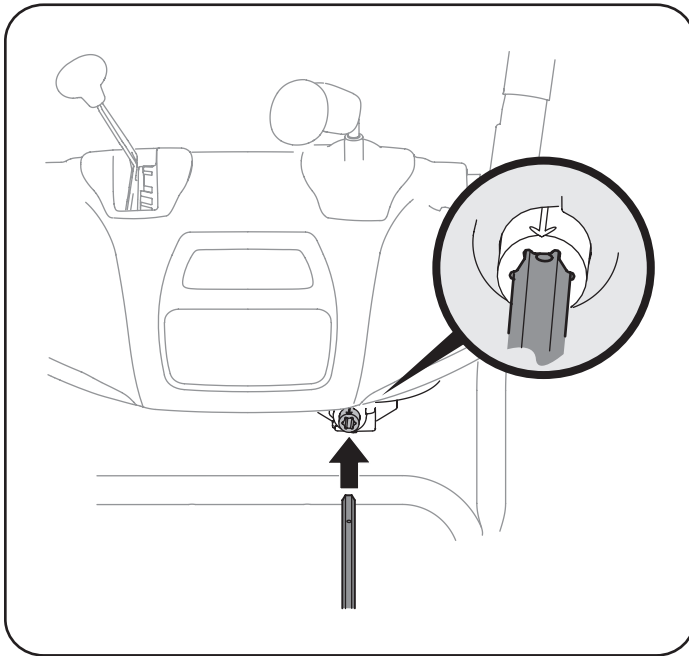

Figure 8
7. Make sure all cables are routed to the left of the chute control rod. Line up the hole in the rod with the arrow on the input shaft and insert the rod into the input shaft below joystick on handle panel. See Figure 8.